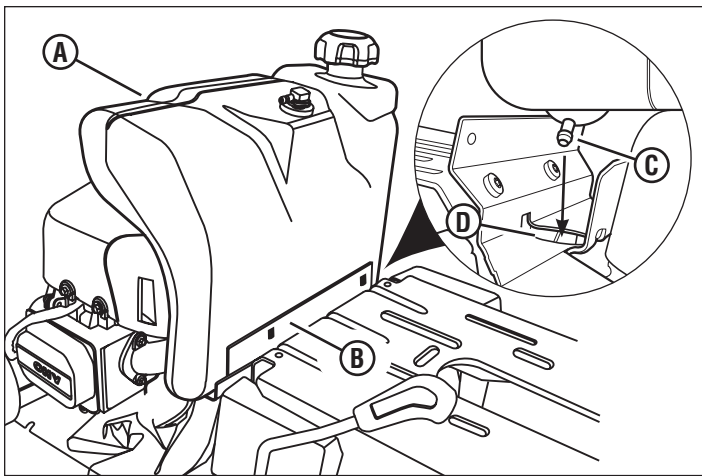

Figure 5
- Insert the fuel tank (A, Figure 5) into the fuel tank bracket (B).